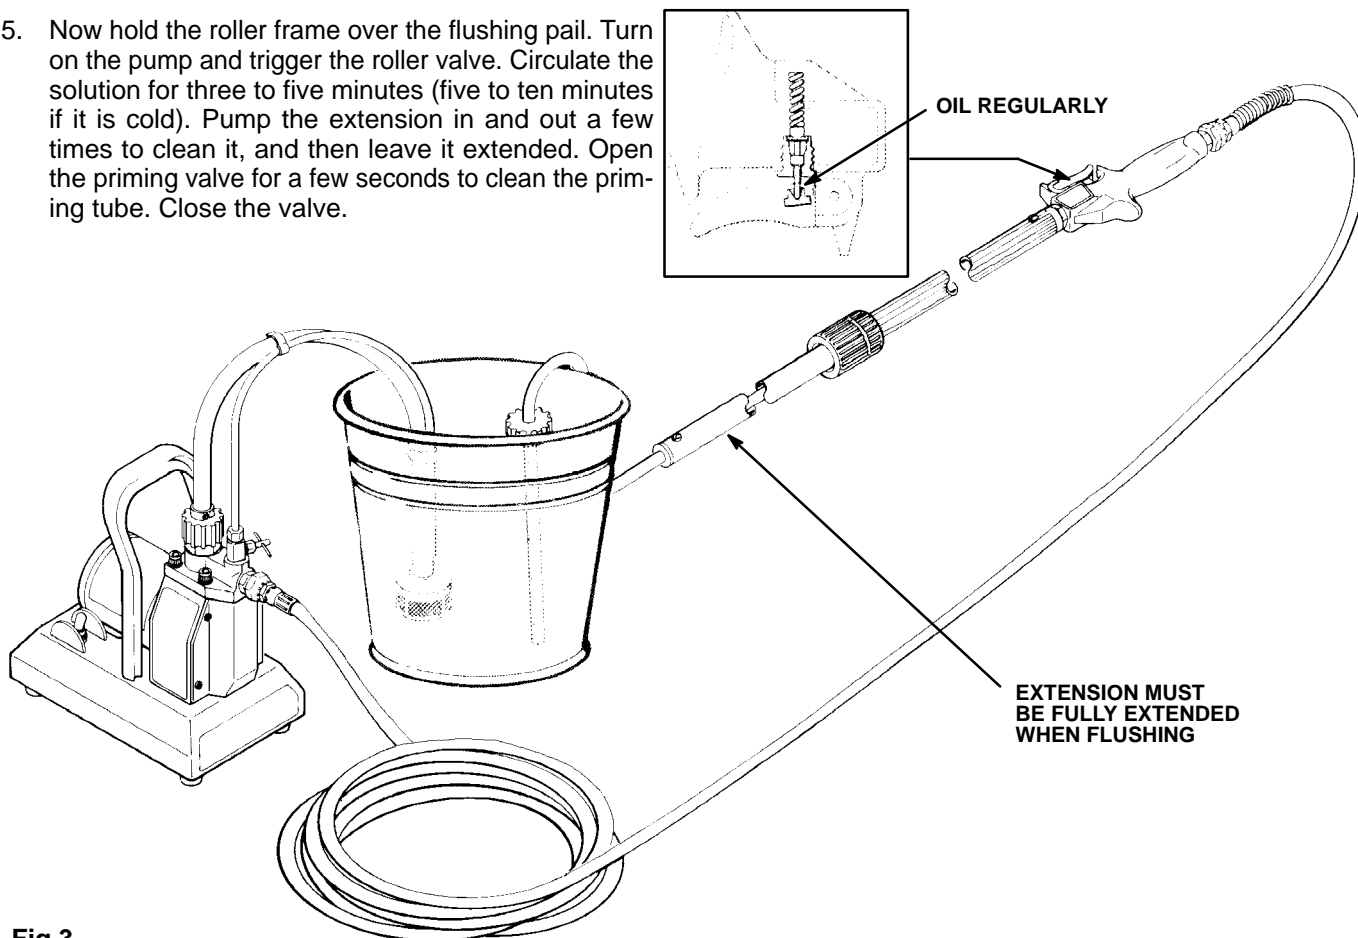

Fig 3
11. Oil the needle in the roller valve and trigger the valve a few times to distribute the oil. See Detail A, Fig 3.